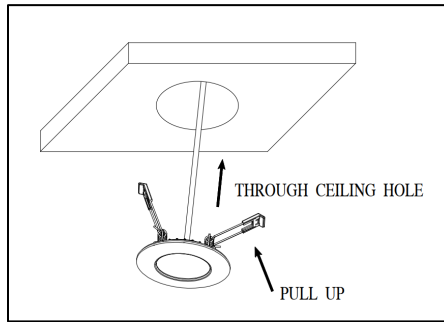

Figure 6
7. Pull the spring clip on the trim module up and through the ceiling hole and place module in the hole making sure the spring clips are holding securely. (Figure 6)